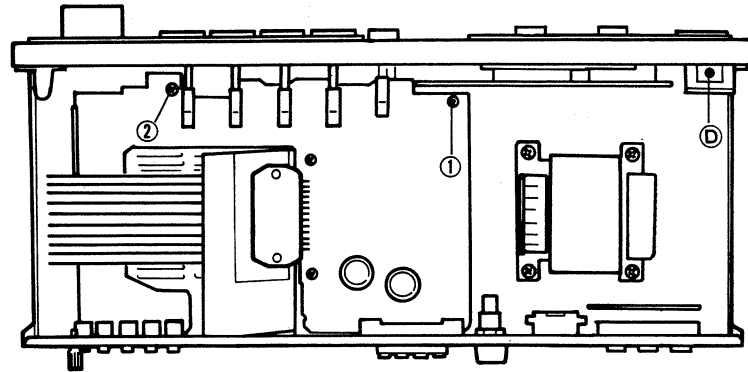

Fig. 2
4. Remove screws ⑨ ~ ⑫ and plastic rivet ⑬ to set the front panel free. (Fig. 2, Fig. 4)